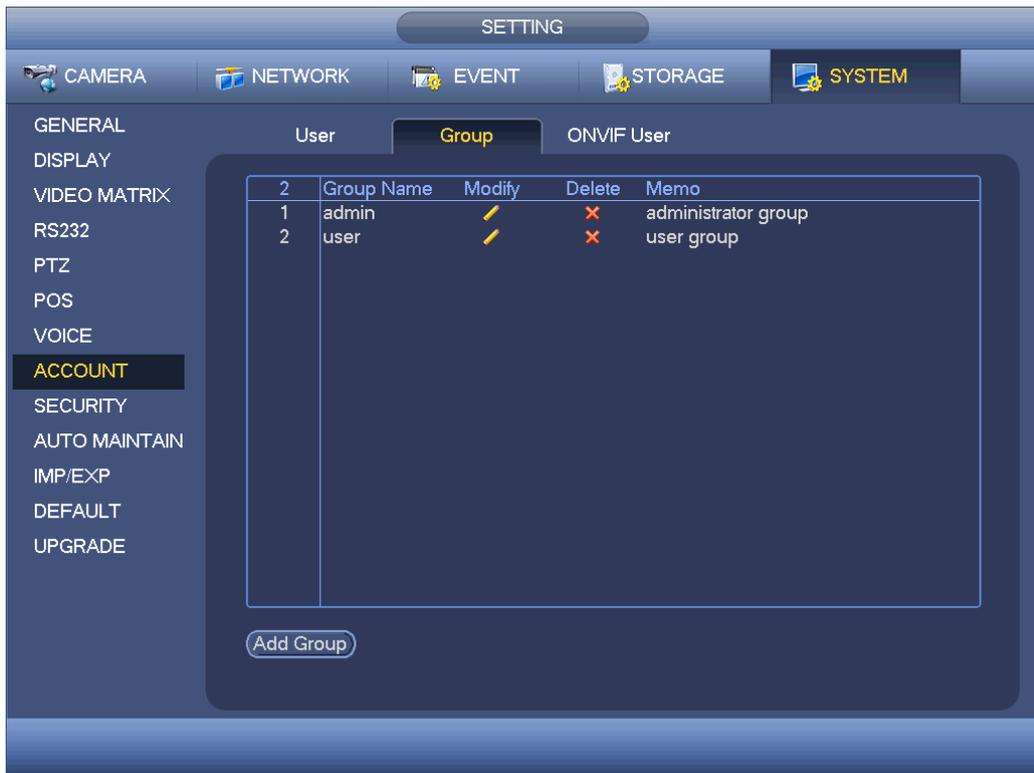

Figure 2-203
Enter add group interface. See Figure 2-203.
- Step 2 Click add group button in Figure 2-203.